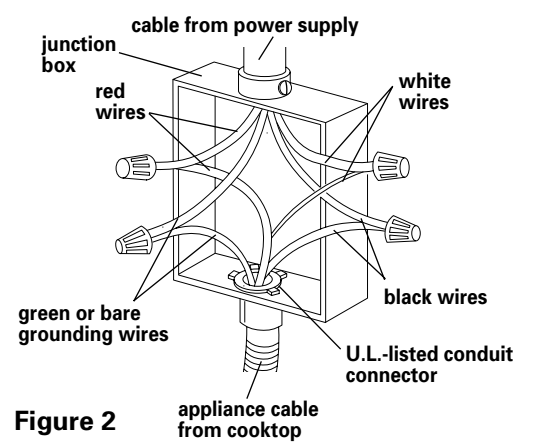

Figure 2
10. Connect white appliance cable wire to neutral (white) wire in junction box. See Figure 2.
11. Connect the bare grounding appliance cable wire to the green grounding wire in junction box. Do Not connect bare grounding wire to neutral (white) wire in junction box. See Figure 2.